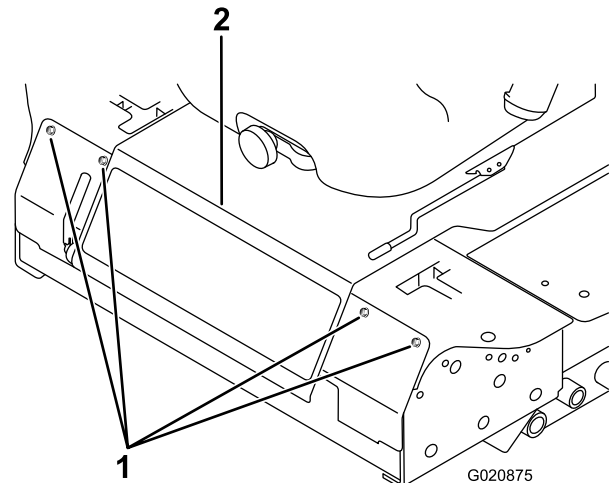

Figure 56
3. Remove the bolts securing the front panel and remove the panel (Figure 56).